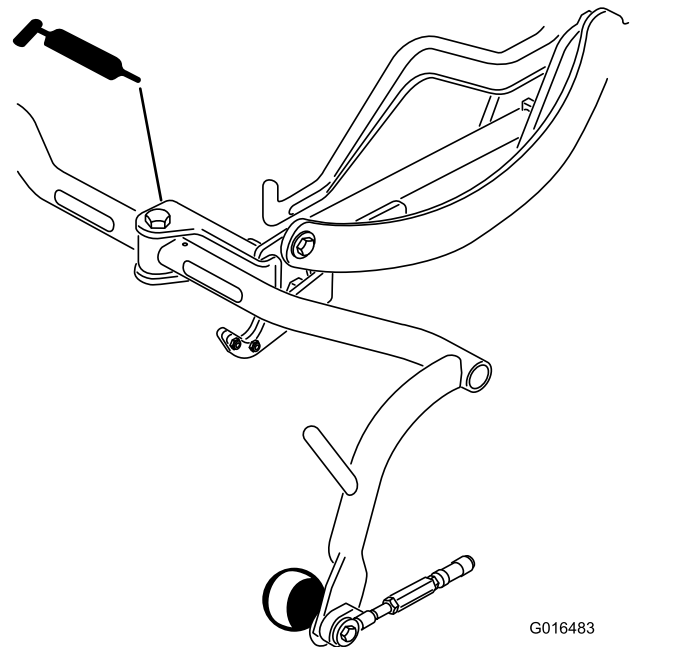

Figure 29
- Carrier frame pivot (3) (Figure 29)